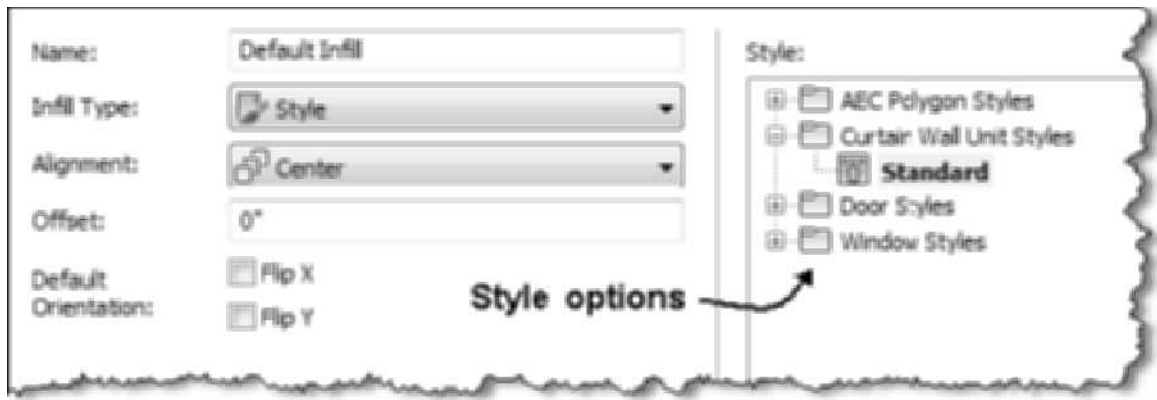

FIGURE 6.12 Defining a style infill type
11. The Infill Type can be specified as Style. Click the Infill Type flyout, and choose Style. The following styles are listed in the right pane: polygons, curtain wall unit, doors, or window styles as shown in Figure 6.12.